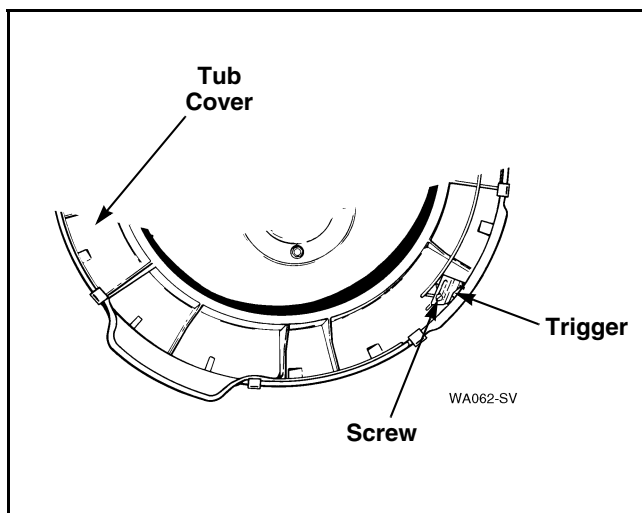

Figure 48
NOTE: The trigger is centered on the mounting screw at the factory. Refer to *Figure 48*.
- Loosen screw holding trigger to tub cover. Refer to *Figure 48*. Move trigger to the right (increases sensitivity) or to the left (decreases sensitivity).